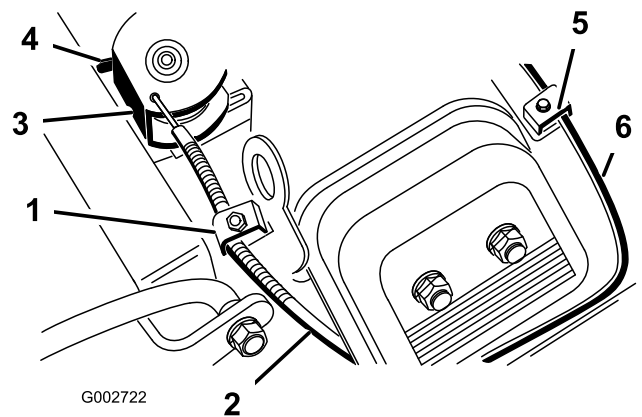

Figure 40
2. Loosen the throttle cable-clamp screw securing the cable to the engine (Figure 40).
4. Pull firmly on the throttle cable until the back of the swivel contacts the stop (Figure 40).
2. Loosen the choke cable-clamp screw securing the cable to the engine (Figure 40).
4. Pull firmly on the choke cable (Figure 40) until the choke butterfly is completely closed; then tighten the cable-clamp screw.